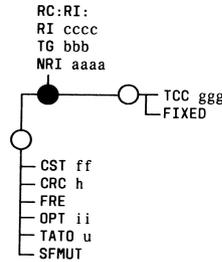

Fig. 25 — RC:RI Message Flowchart
- (1) Construct RC message per Table G and Fig. 25.
(2) At terminal, type RC message as constructed in Step (1) and observe RC18 3 0 ACPT response.